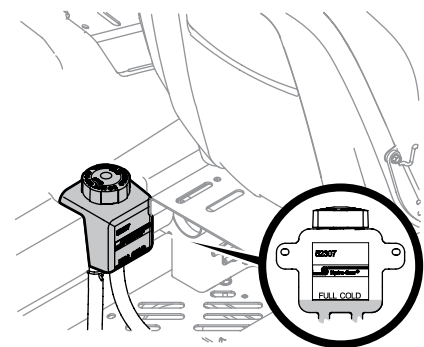

Figure 4-6
Once a month remove the belt covers to remove any accumulation of grass clippings from around the spindle pulleys and V-belt. Clean more often when mowing tall, dry grass. Remove the wing knobs (a) to remove the belt covers (b). See Figure 4-6.
1. Clean the reservoir cap and the area around the cap to prevent debris from contaminating the transmission oil. See Figure 4-6.
2. Turn the reservoir cap counter-clockwise to remove, then check the oil level in the reservoir. Oil should be visible at the bottom of the cup, but the oil level must NOT be above the "FULL COLD" line. See Figure 4-6. DO NOT FILL THE RESERVOIR.
1. Remove the cap from the transmission oil expansion reservoir. See Figure 4-6.